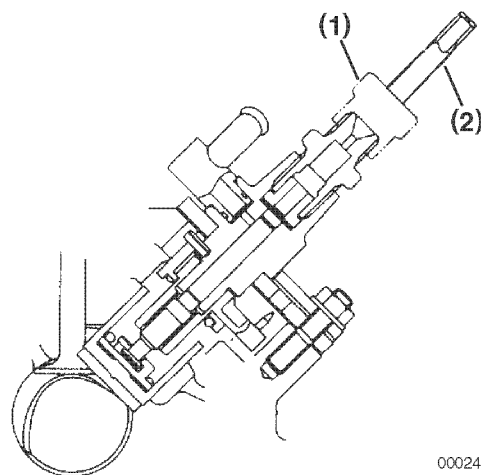

Figure 7-11
12. Install the spill-timing tool (**Figure 7-11, (1)**) onto the fuel delivery valve. See *Measuring Instruments* on page 7-5, for a description of the tool.
16. Lightly "Flick" the timing tool nozzle with your finger to remove bubbles and establish a fuel level at approximately half the height of the nozzle (**Figure 7-11, (2)**).